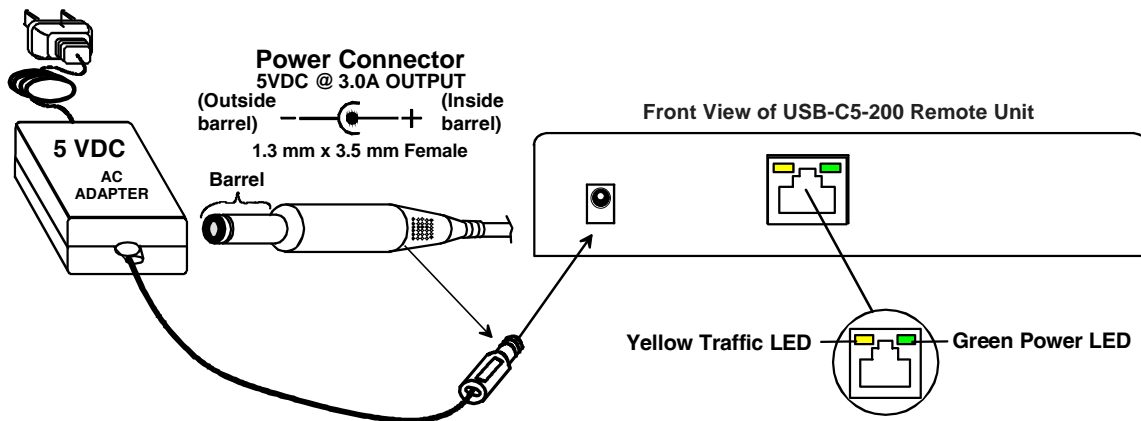

Figure 4- Connect the AC adapter
1. Connect the AC adapter power connector to the 5VDC port on the Remote Unit. (The Local Unit is powered by the CPU.) Plug the AC adapter into a power outlet. The green LED on the RJ45 connector of the Remote Unit should illuminate, indicating that a proper power connection has been made to it. (See Figure 4.)
**Note:** The yellow LED on RJ45 connector will blink anytime data traffic is passing between the Local and Remote Units, indicating proper CATx cable connection and communication. (See Figure 4)